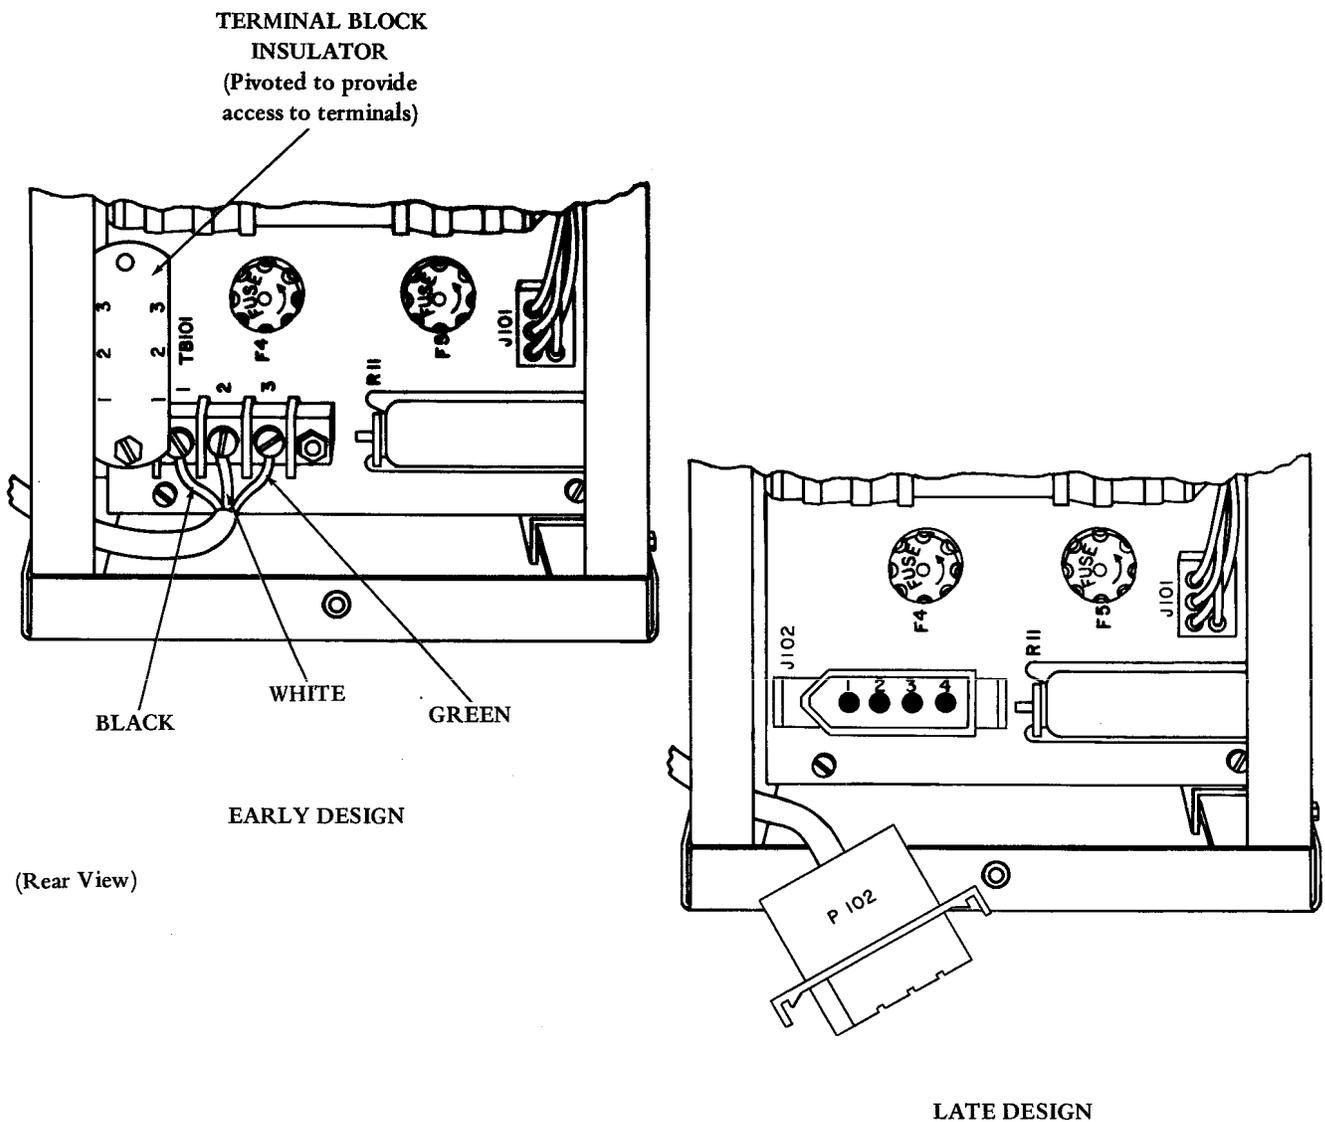

Figure 7 - Electronics Module
(3) On late design modules, unplug connector P102 from connector J102 on the rear of the module. On early design modules which have a terminal block instead of a cable connector (Figure 7), rotate terminal block insulator mounting screw (TP181241), rotate insulator to gain access to terminal block connecting points, and remove (one at a time, observing wire color and position) three leads from terminal block TB101.
Note: When reconnecting this cable to the terminal block or connector, route the cable over the bottom frame of the module as shown in Figure 7. If routed under the frame, the cable may be crimped between the module and lower shelf of the cabinet.
(5) Remove one power supply terminal block insulator mounting screw (TP181241) (Figure 7). Rotate insulator to gain access to terminal connecting points. Remove (one at a time, observing wire color and position) three leads from terminal block TB101.